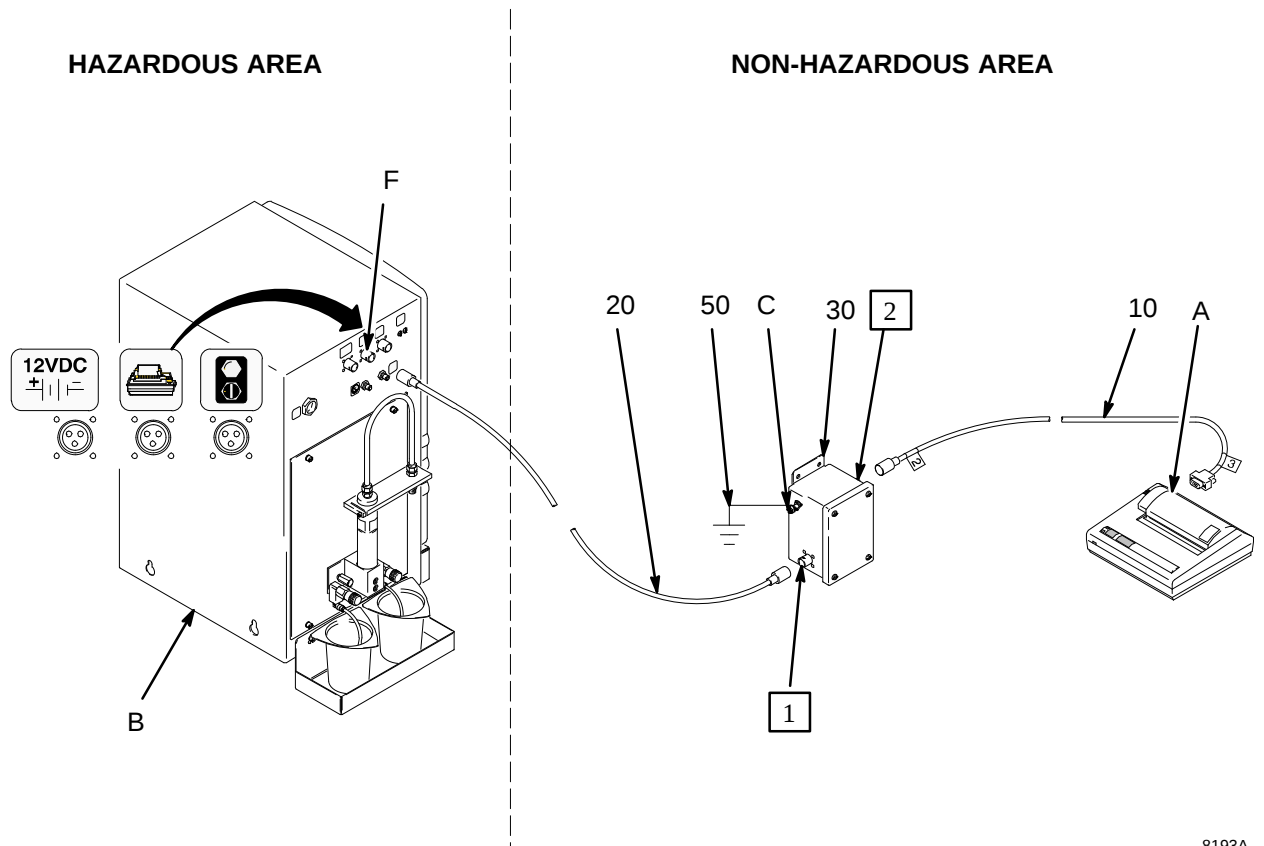

Fig. 2
2. Turn off the electrical power to the ProMix control (B). See Fig. 2.
3. Mount the printer barrier (30) in the non-hazardous area.
4. Connect the ground wire assembly (50) to the printer barrier ground lug (C).
5. Measure the resistance between the printer barrier ground lug (C) and true earth ground. The resistance should be less than 1 ohm.